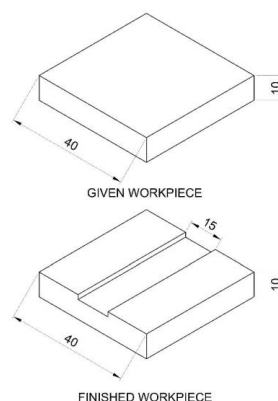

Figure 7.1 Slotting operation
7.1 Preparation of slotting operation as shown in Figure 7.1